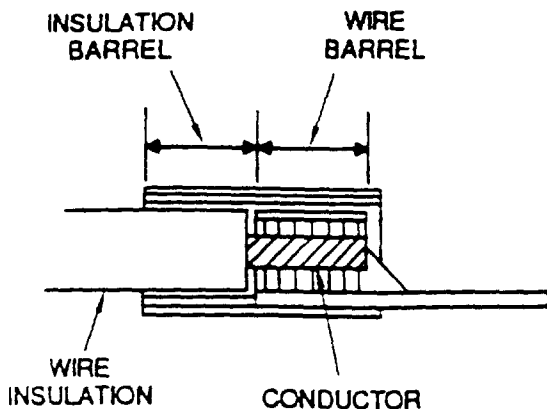

Figure 21 Insertion of Wire Into Insulated Terminal Lug
f. Insert stripped wire into terminal lug barrel until wire insulation butts flush against near end of wire barrel (Figure 21).